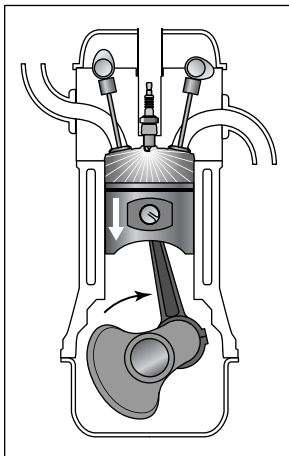

Figure 7-13: The power stroke.
3. **Power stroke:** See Figure 7-13. The spark plug produces a spark across the **gap** between its **electrodes**. This spark ignites the compressed fuel/air mixture. Then the burning fuel/air mixture ignites, creating intense pressure that forces the piston *down* again. The power that pushed the piston down is transmitted, via the **connecting rod**, to the **crankshaft**. It then travels, via the **drive train**, through the **clutch** or **torque converter**, the **transmission**, the **driveshaft**, the **differential**, and so on to the wheels. (A quick overview of this process appears in Chapter 4.)